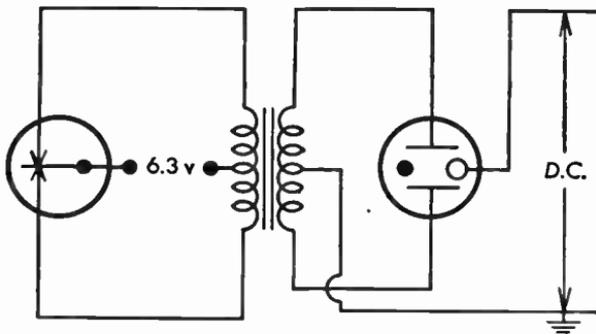

Fig. 9.18 Vibrator-power supply with gas-filled rectifier tube.
9.18 The starting voltage of the gas-filled 0Z4 tube of the vibrator power supply of Figure 9.18 is 300 volts peak, according to the information provided by the manufacturer. When connected to a 6.3-volt automobile battery, the plate-to-plate voltage of the transformer secondary is 460 volts rms. Assuming the same step-up ratio from the dual primary to the full secondary, show if the power supply can be expected to operate on a run-down battery with a terminal voltage of 5.6 volts. Also calculate the approximate minimum battery-voltage demand.